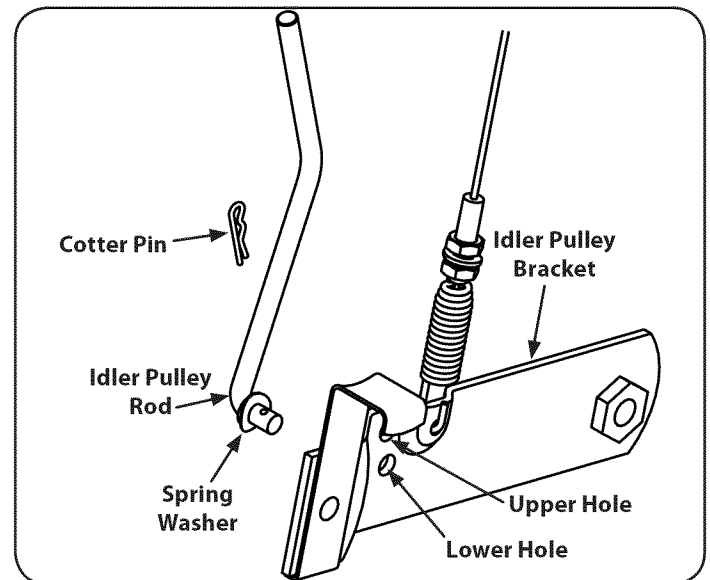

Figure 10
- Remove the cotter pin and spring washer from the idler pulley rod. See Figure 10.
5. Move throttle control to START/RUN (Rabbit)  position. See Figure 10. Push starter button to start engine.